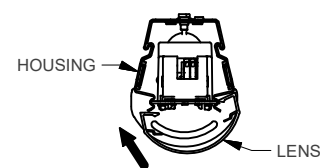

FIGURE 4: LENS
- 7) Snap on lens by angling one side in and then pivot the opposite end around to snap in the other side as shown in Fig 4.